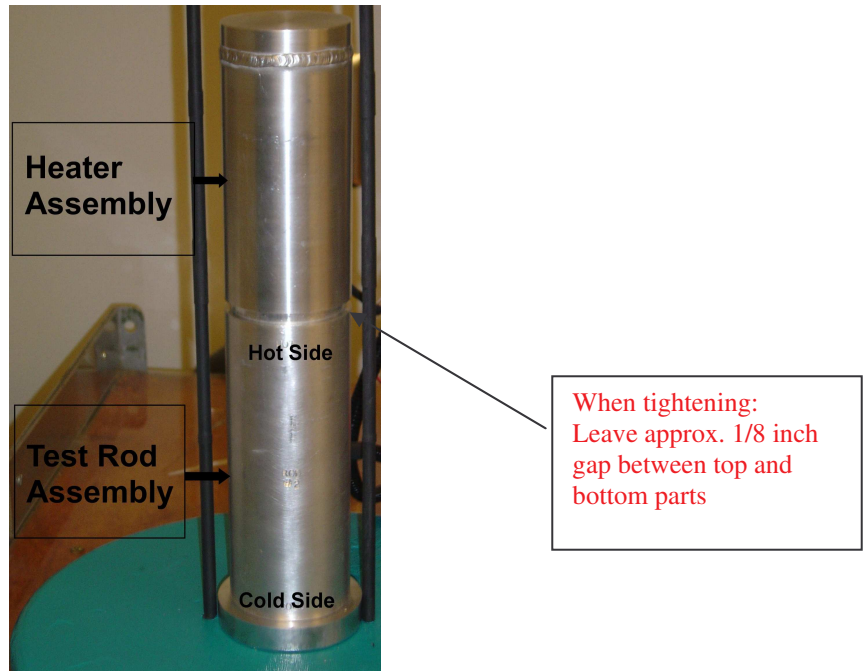

Fig. 3 Test Rod Assembly
- iii) *Ensure Heater assembly and Rod assembly joints are approximately 1/8 inch apart from one another in order to separate the two pieces later **DO NOT CLAMP DOWN THE PIECES FLUSH !!!** (see Fig. 3 below). If not go to step (6b)*